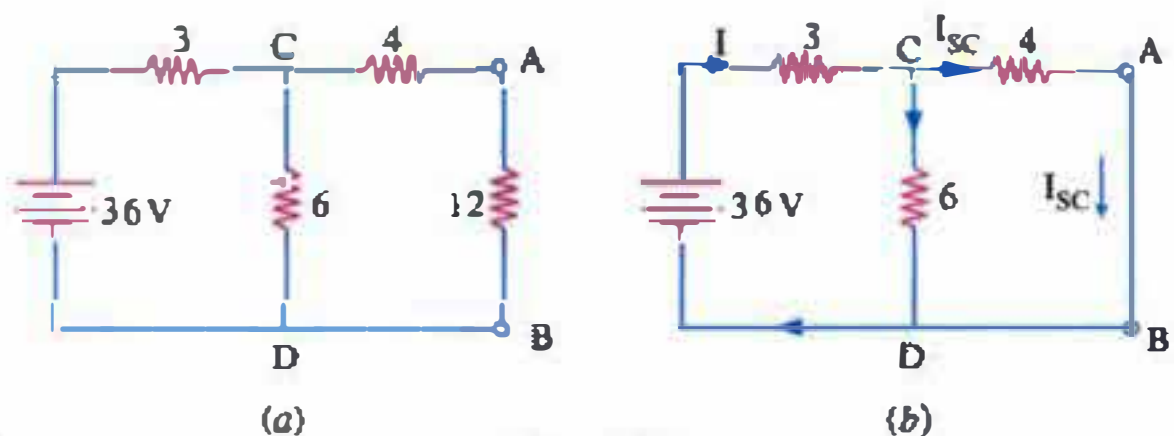

Fig. 4.18
Example 4.5. Using Norton's theorem, calculate the current flowing through the 12 Ω resistor in Fig. 4.18 (a).
1. First Step. Remove 12 Ω resistor from terminals A and B and then put a short-circuit across them as shown in Fig. 4.18 (b).